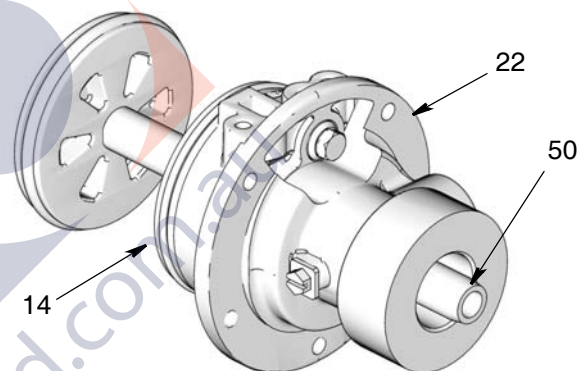

Fig. 14
4. Apply a thin coat of grease round the top of the displacement rod (50). Push the displacement rod through the opening in the bottom cover and into the flange assembly as shown in Fig. 14.